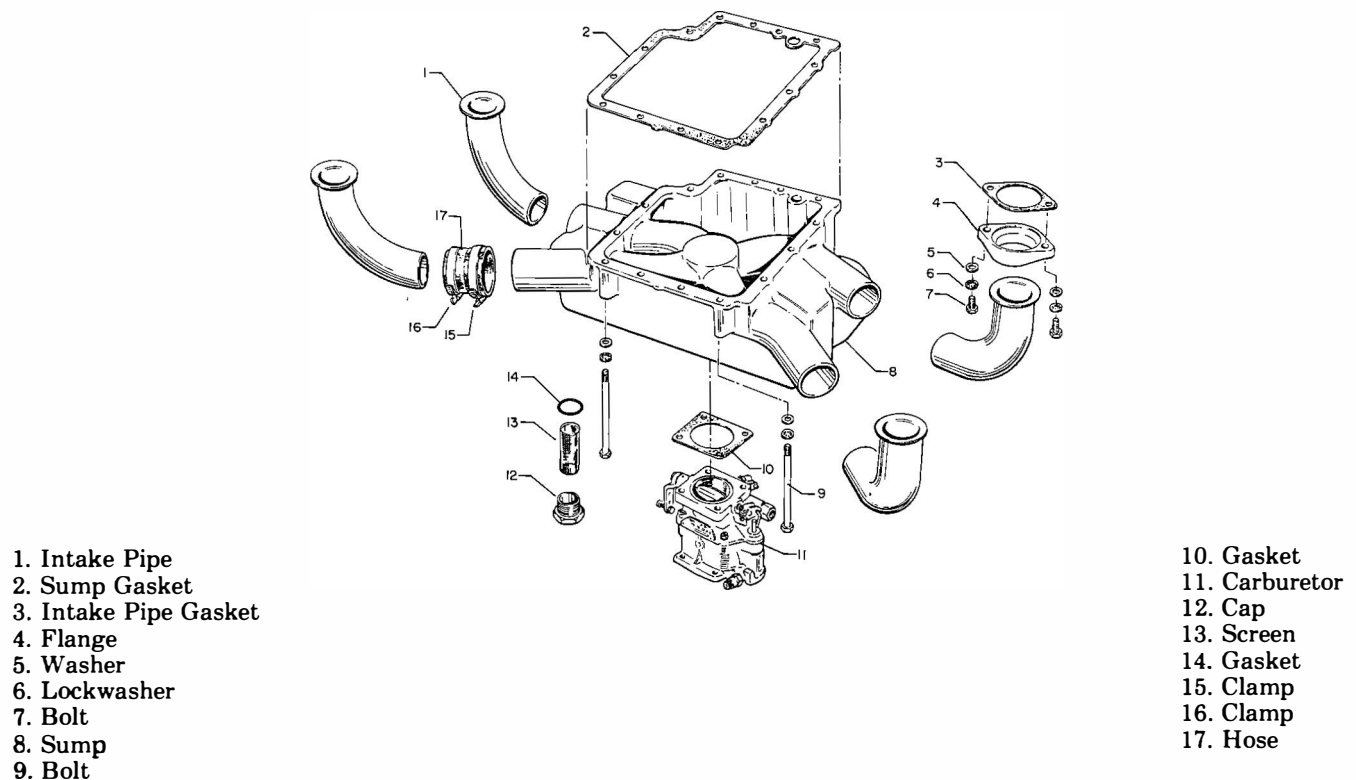

Figure 6-1. Oil Sump and Related Parts
6-4. *Oil Suction Screen.* See figure 6-1 or 6-2. Unscrew the hex head plug and remove gasket and suction screen.
6-13. *Intake Pipes.* See figure 6-1 or 6-2. Slide an intake pipe flange (4) over each intake pipe (1). Assemble hose (17) and two clamps (15 and 16) over end of intake pipe and install on sump. Place a new gasket (3) over the intake port and secure the flange to the cylinder. Tighten hose clamps on hose.